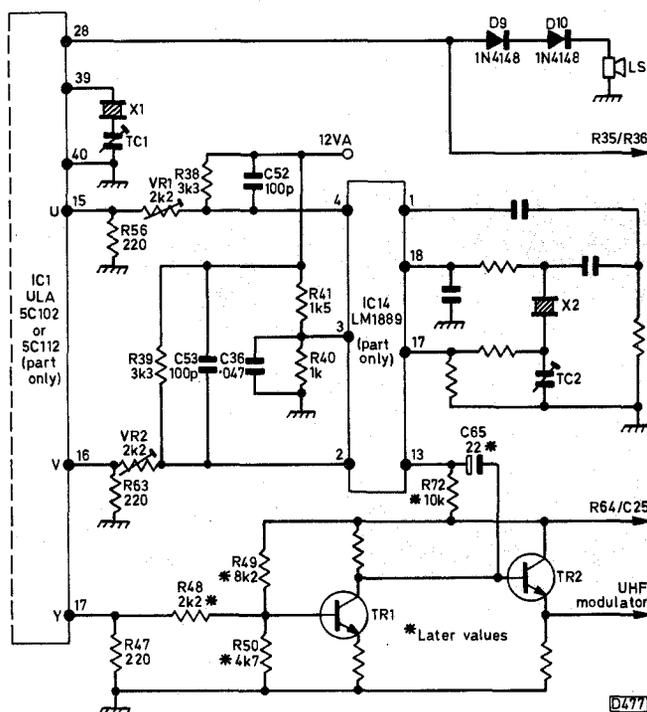

Fig. 11: Circuit variations around IC1/IC14 in earlier versions – compare with Figs. 1 and 5.
(1) Replace all disc ceramic capacitors with axial ones. Especially change C41 and C49 (47nF) – as with issue 1 boards – and change C43 (100nF) in the voltage generator circuit. This, together with modification (3) below, will update the circuit almost to issue 3 standard.
(2) To improve the colour, change R48 to 2.2k Ω , R49 to 8.2k Ω , R50 to 4.7k Ω , R72 to 10k Ω and C65 to 22 μ F. These components are all associated with the luminance/chrominance drives to TR1 and TR2 (see Fig. 11).
(3) Carry out the same modifications as those listed under (6) and (7) for issue 1 boards.
(4) The only currently available ULA is type 6C001. When this is used to replace an earlier type the following modifications should be made: change R47 to 1k Ω , R49 to 10k Ω and R56 and R63 to 470 Ω .
(5) There's no need to change the speaker circuit from
that shown in Fig. 5 to that shown in Fig. 11. The modification is very simple however if increased sound output is required.